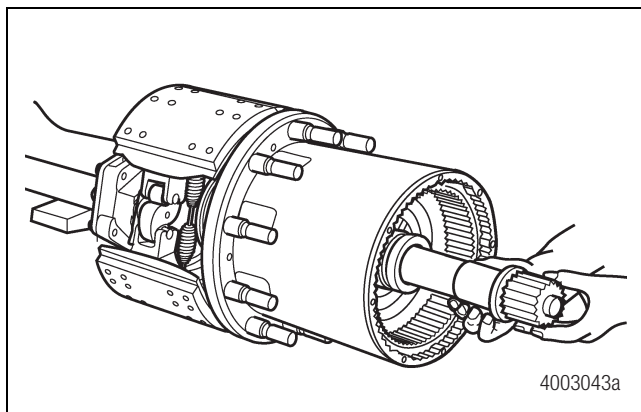

Figure 3.7
1. Remove the sun gear and axle shaft assembly. Figure 3.7.